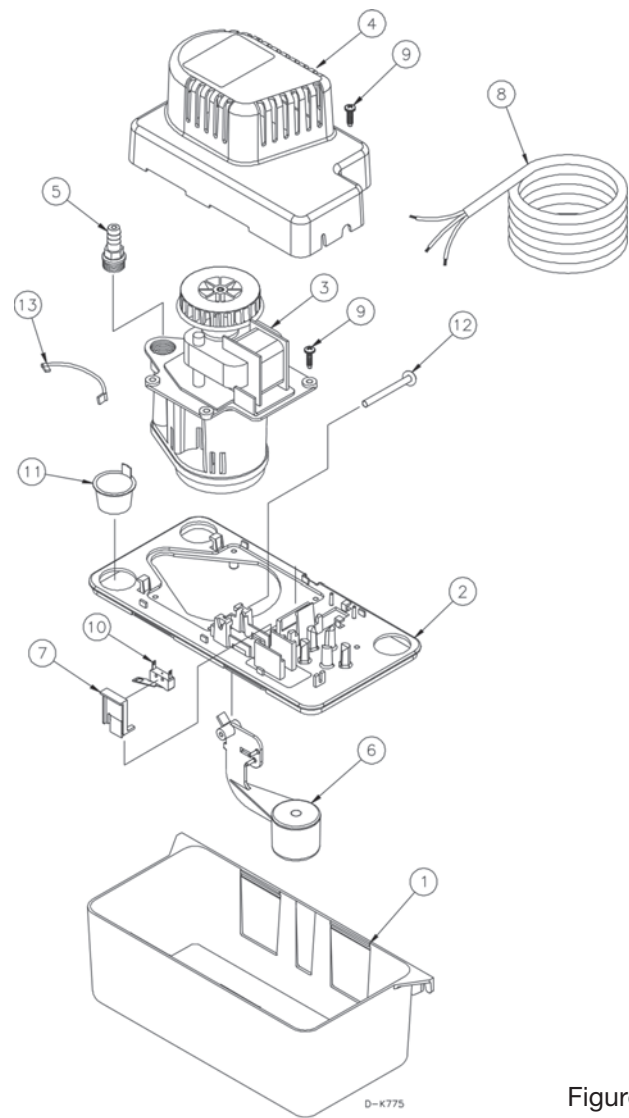

Figure 4.
1. Connect 3/8" I.D. tubing to the discharge adapter (item 5, figure 4). For best results, secure tubing with clamps (not provided) but do not pinch collapse or otherwise restrict the tubing.